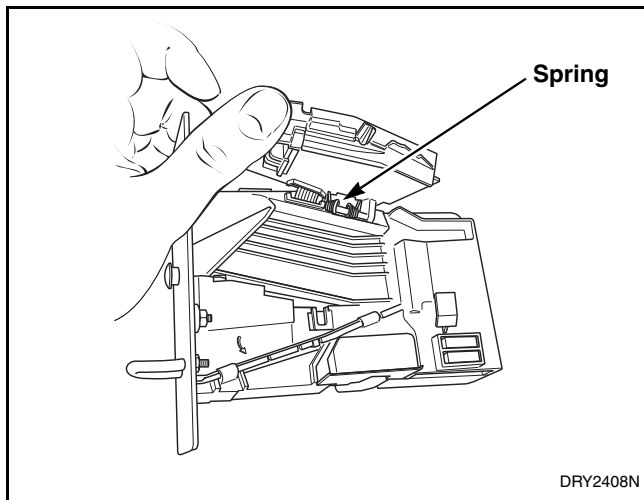

Figure 28
- Open cover of coin drop. Refer to Figure 28.